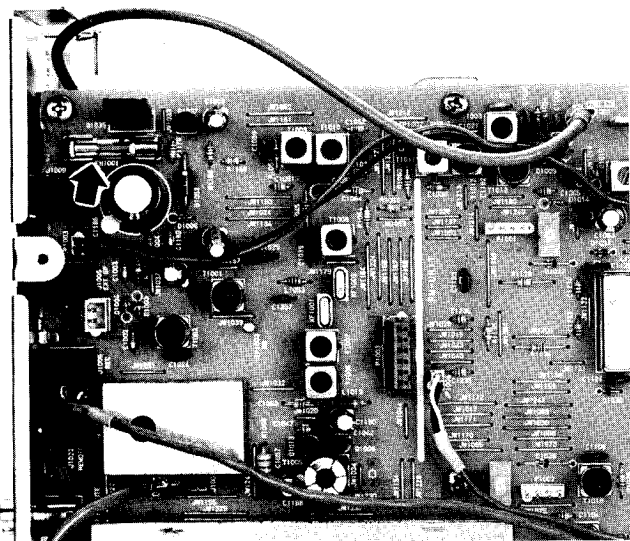

Figure 6: Fuse Replacement
- Locate fuse **FH1001** at the upper right corner of the circuit board next to the **DC 12 V IN** connector (Figure 6).